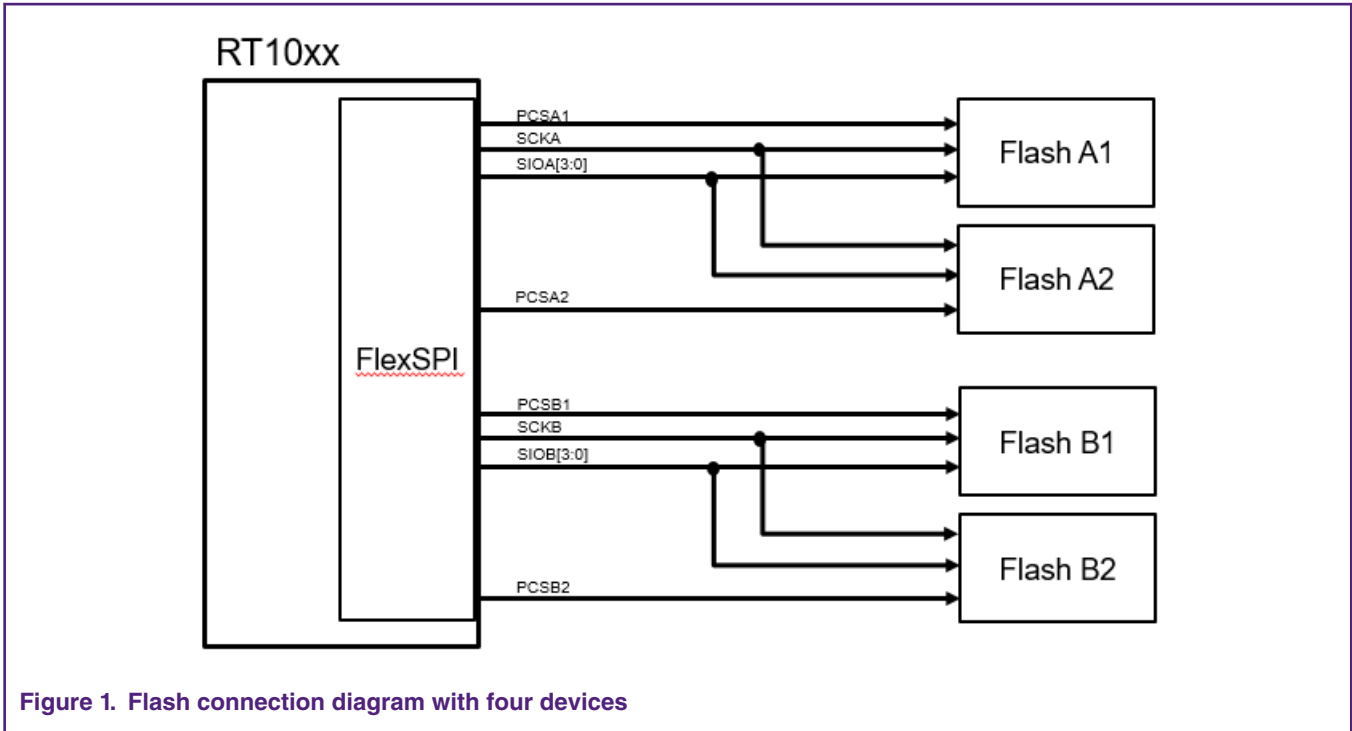

Figure 1. Flash connection diagram with four devices
i.MX RT supports up to 4 flash device on the same FlexSPI interface by different chip select signals. It also supports bus arbitration which is very helpful in RWW application. See Figure 1 for four flash device connection.